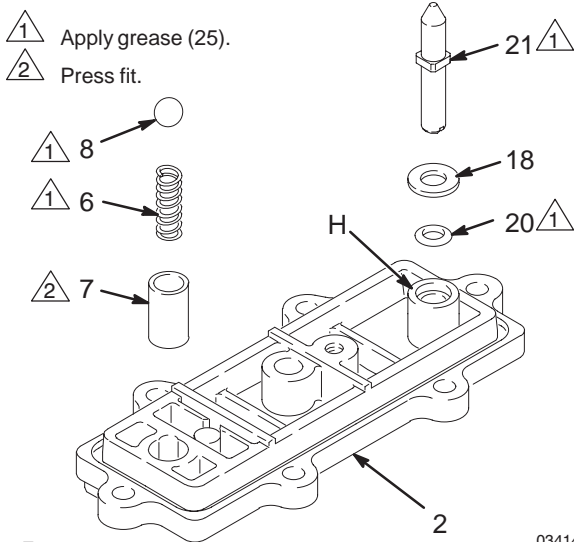

Fig. 15
1. If the detent collar (7) was removed, carefully install a new collar in a new cover (2). Using a rubber mallet, carefully press fit the detent collar into the cover. See Fig. 15.
2. Grease the detent spring (6), and place it in the collar (7). Grease the ball (8) and set it on the spring.
3. Grease the o-ring (20) and install it in the hole (H) in the cover (2). See Fig. 15. Slide the washer (18) onto the blunt end of the reset shaft (21). Insert the shaft through the cover (2) until it seats.